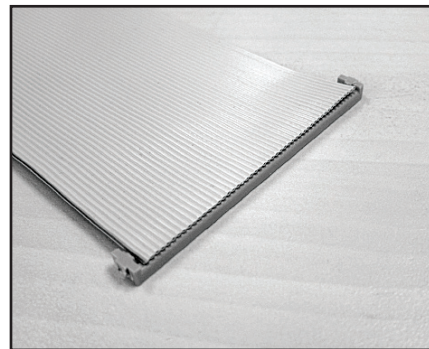

Figure 6
- Cable end is flush with the cover for end terminations or perpendicular to cover for midspan terminations. (Figure 6)